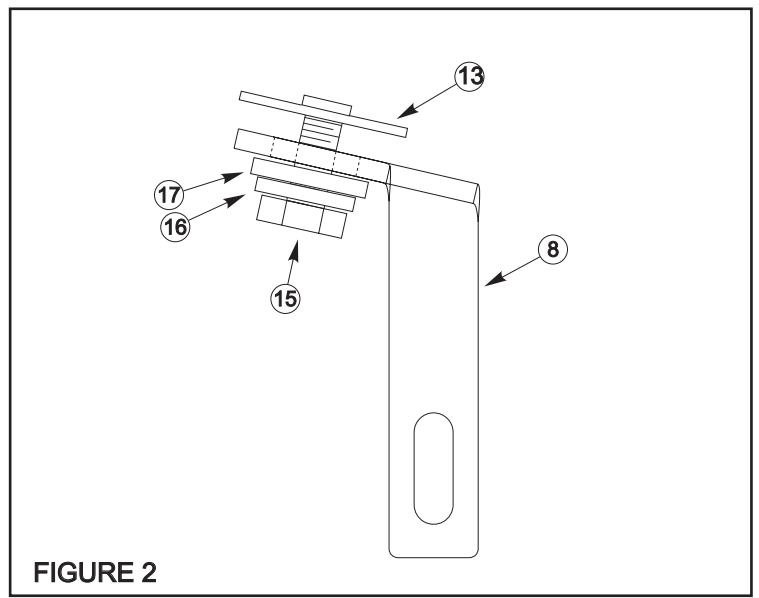

FIGURE 2
- STEP 5. Assemble support brace as shown in figure 2 leaving fasteners very loose. **NOTE:** Protruding end of bridge nut must face up.